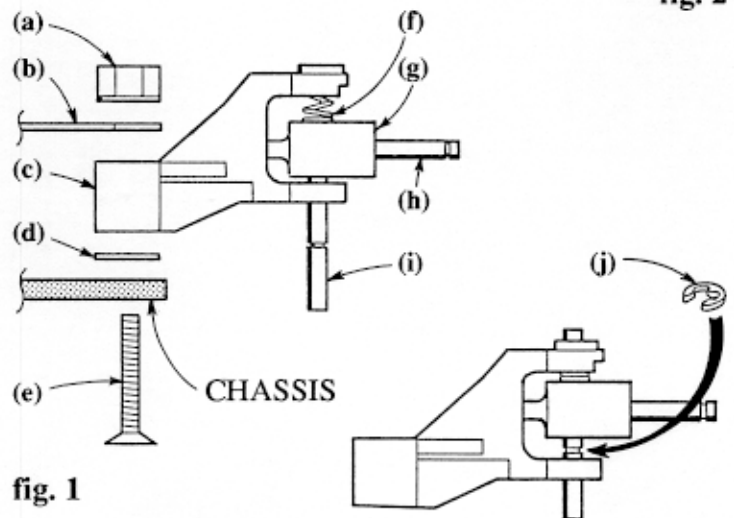

fig. 1
STEP 6 Mount the suspension arms to the chassis (fig. 1) with the 8-32 screws provided, long screws (e) through the front holes, short ones through the rear holes. Then slip the cross brace (b) on the forward screws (e), holding it down with the 8-32 nylon locknuts (a).